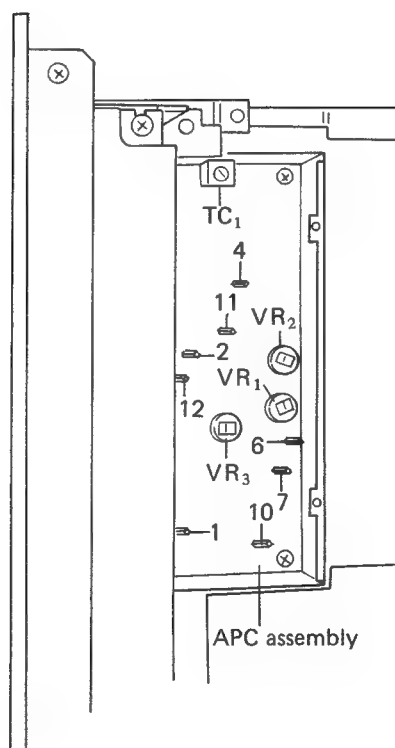

Fig. 7-2
5. Adjust the VR_3 of the APC ass'y to obtain a reading of +8V on the DC voltmeter (refer to Fig. 7-2).